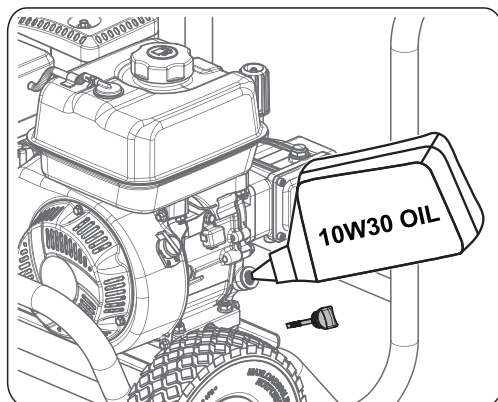

Fig 5
5. When finished screw in the dipstick securely. Fig 5